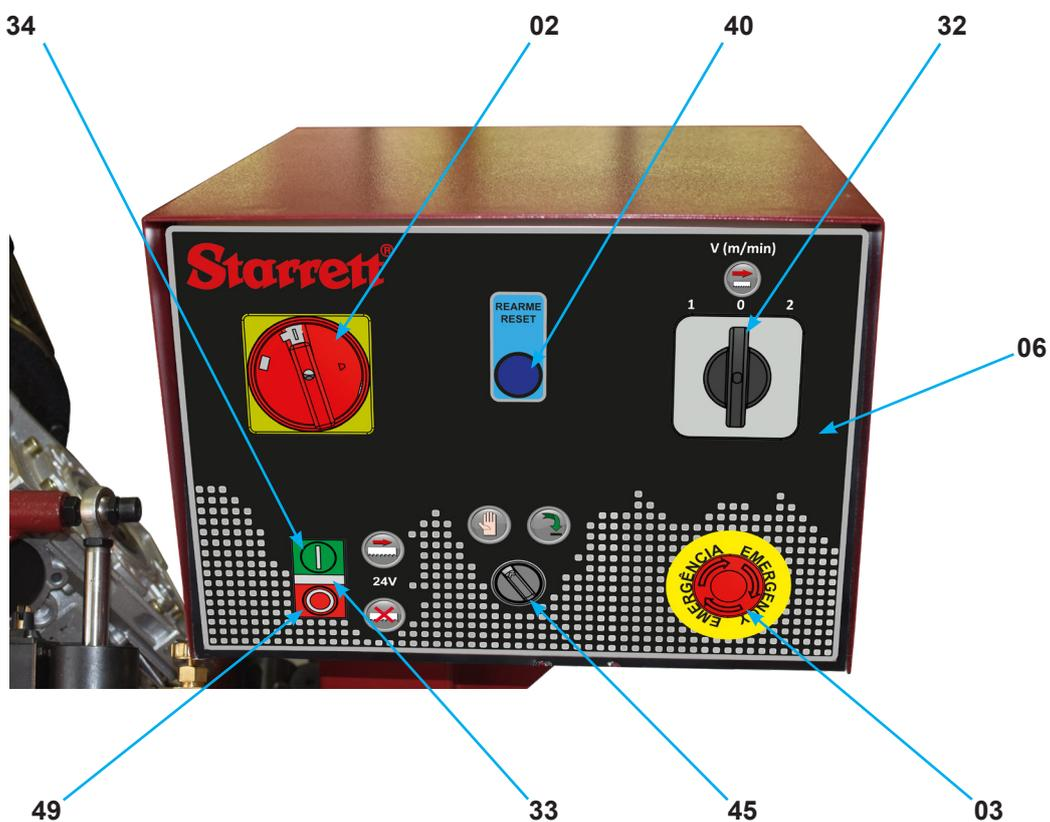

FIGURE 12.1 - COMMAND PANEL
1. VERIFY that the General Switch (02) is in the OFF position and the EMERGENCY Button (03) is pressed (figure 12.1), before starting any operation;
2. RELEASE the Limiter Pin (38) (figure 11.3) from the 0° position (when necessary), to enable the turning of the Bow (04) to the left side (figure 11.5);
3. PUSH the Bow Turn Lock Lever (70) (figure 11.3) counter-clockwise to unlock the Bow (04);
4. ROTATE the Bow (04) (figure 11.1) until the desired angle shown in the Angular Scale (46) (figure 11.3);
5. PULL the Bow Turn Lock Lever (70) clockwise (tighten) (figure 11.3);
6. CERTIFY that the Bow (04) is really locked;
7. CERTIFY that the Vise Set (19) is on the left side (figure 11.5). If not, PROCEED:
- RELEASE the two the Vise Lock Screws (23) (figure 11.2);
- MOVE the Vise (62) to the left;
- TIGHTEN the two Vise Lock Screws (23) and the Vise Lock Handle (22) (figure 11.2).